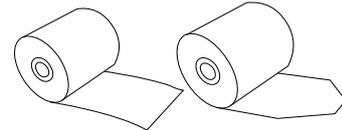

Figure 2-10. Cut the paper roll
(2). Cut the paper roll as shown in Figure 2-10.